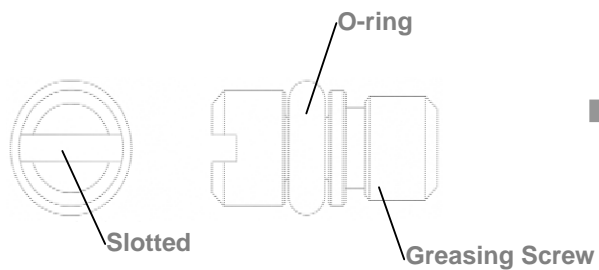

Fig. 297
- ③ Use the screwdriver either, the slotted to tighten the greasing screw, Fig. 297.